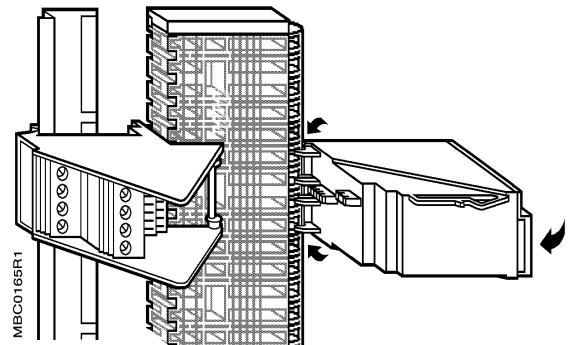

Figure 5. Installing a Point Module.
3. Insert the point module's mounting guides into the right-hand edge of the M-Bus rail as shown in Figure 5.